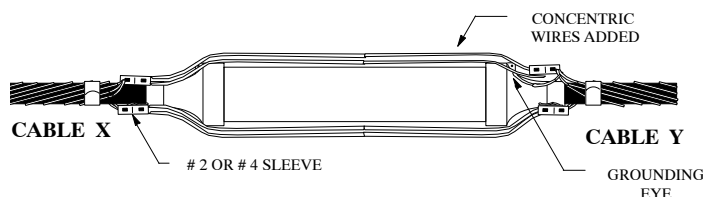

FIGURE 4
12. Connect the concentric neutral wires back over the cable and splice body as follows: 4/0 cable with 11 #14 AWG concentric wires (3 ph) make two bundles of wires (one with 5 wires and one with 6 wires) and place them into the #4 copper sleeves. Crimp the sleeves using the "P" or "J" groove of the XPJ tool as shown on sleeve. 4/0 cable with 20 #12 AWG concentric wires, (1 ph), make three bundles of wires (two with 7 wires and one with 6 wires), and place them into the #2 copper sleeves. Crimp the sleeves using the "P" or "J" groove of the XPJ tool as shown on sleeve. It may be necessary to add concentric wires in order to jumper across the splice. See Figure 4. Make sure that the neutral wires are against the splice body.